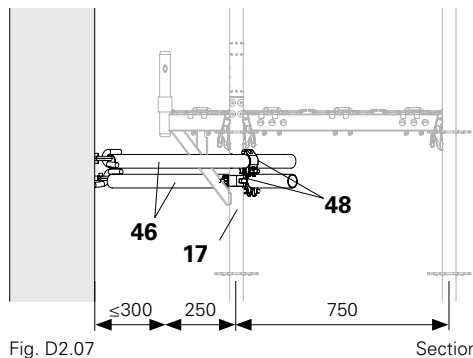

Fig. D2.07
Attach two Wall Ties UWT (46) below at approx. 45° to the ledger axis. Attach both wall ties to the inner standard (17) with standard couplers (48). (Fig. D2.07 + D2.08)